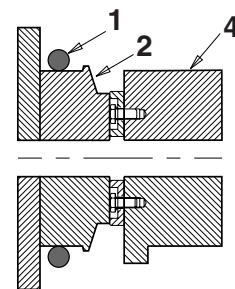

Figure 6
3. Remove the old O-ring and temporarily install the new O-ring (1, Figure 6) onto the bucket boss (2). Make sure that the O-ring groove on both the bucket link (4) and boss have been cleaned.